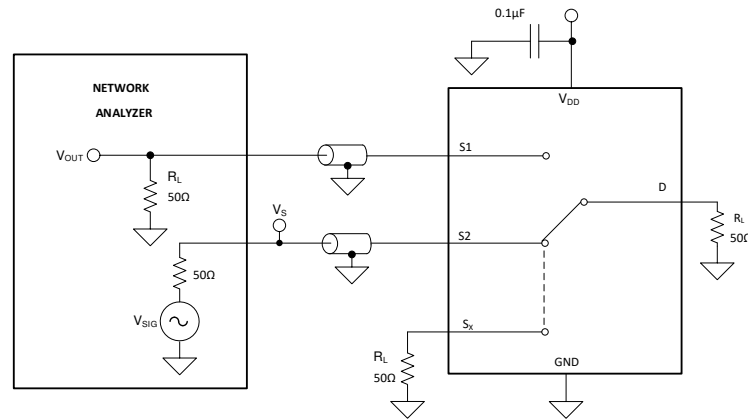

Figure 7-9. Channel-to-Channel Crosstalk Measurement Setup
Crosstalk is defined as the ratio of the signal at the drain pin (D) of a different channel, when a signal is applied at the source pin (Sx) of an on-channel. Figure 7-9 shows the setup used to measure, and the equation used to compute crosstalk.